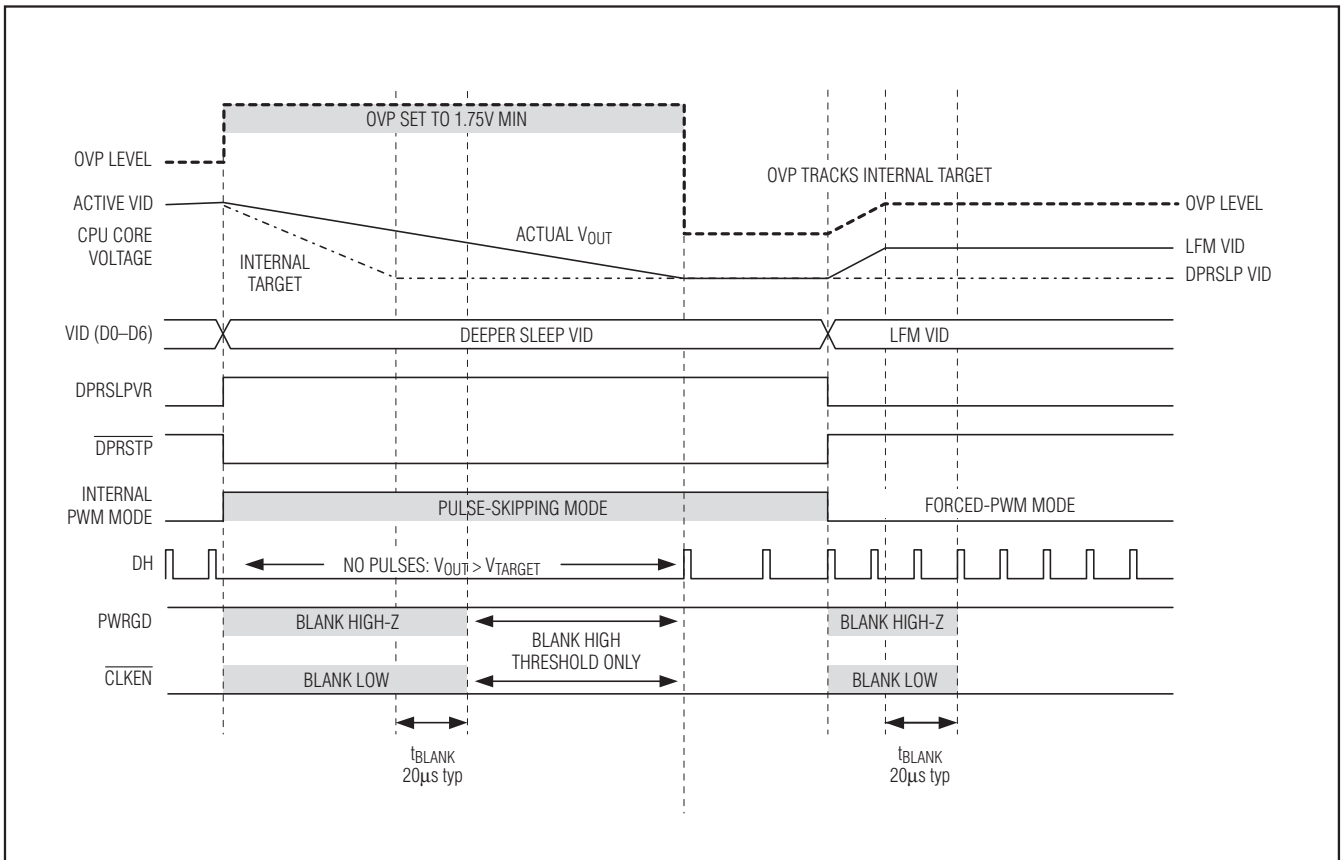

Figure 6. Standard IMVP-6 C4 Transition
- Standard C4 deeper sleep exit:** When exiting deeper sleep (DPRSLPVR pulled low) while the output voltage is regulating to the deeper sleep voltage, the MAX8796/MAX17401 immediately ramp the output voltage to the LFM DAC code provided by the processor at the slew rate set by R_{TIME}. The controller blanks PWRGD and $\overline{\text{CLKEN}}$ (forced high impedance) until 20 μs after the transition is completed. See Figure 6.